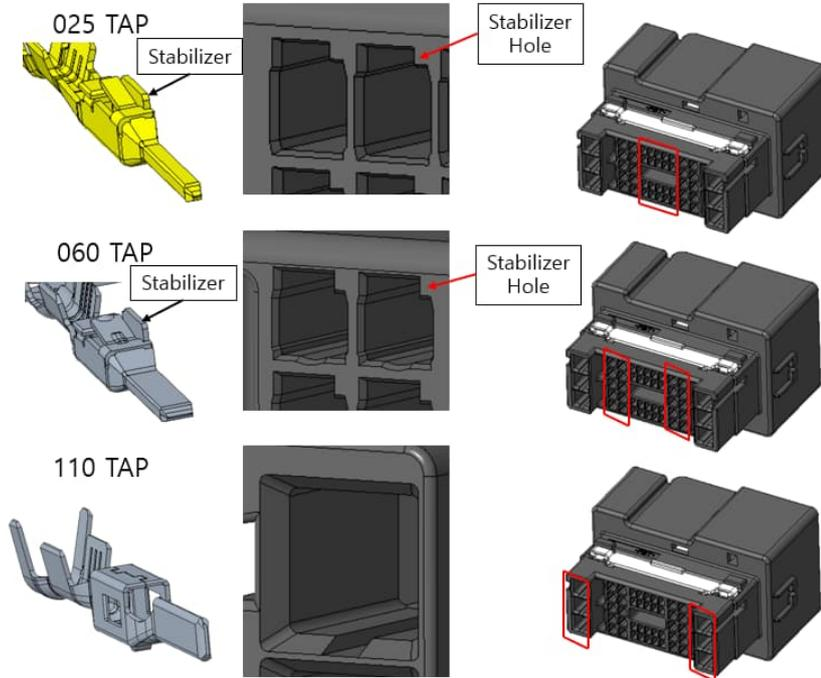

Fig. 5
(2) Insert contacts into each specific cavity as shown in Fig. 5. Operation is completed when contact is latched, and the insertion is stopped.